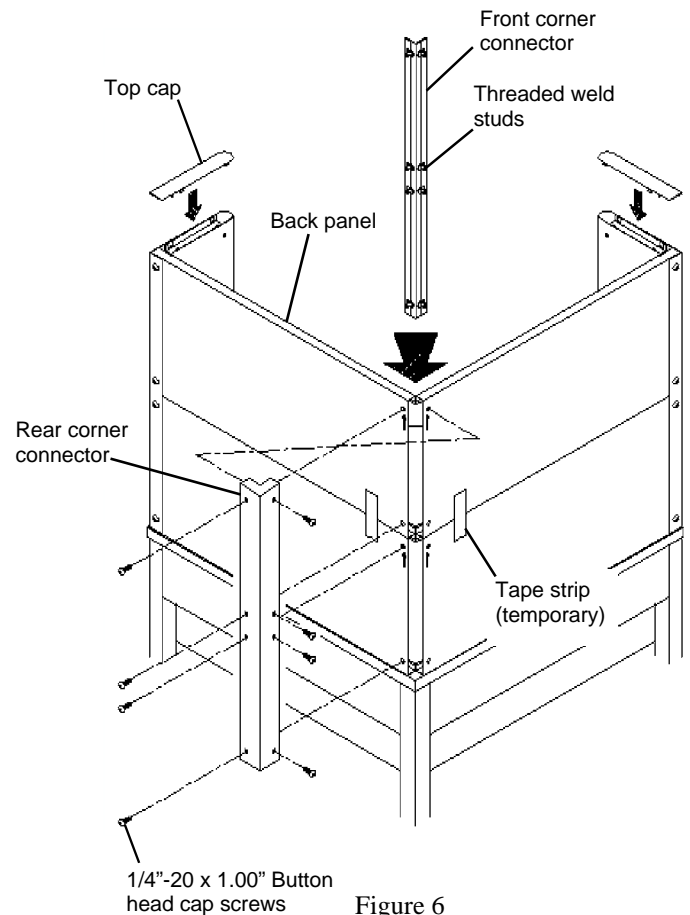

Figure 6
5. Install the remaining **Back panel(s)** as shown in **Figure 6**. If you are installing a 32" or 36" high unit, be careful to keep the unfastened ends of the **Back Panels** together. Apply a length of tape as shown if required.
6. Install the **Front and Rear Corner Connectors** sandwiching the **Back Panels** between them. See **Figure 6**.
Install the 1/4"-20 x 1.00" Button head cap screws through the **Rear Corner Connector** and the **Back Panel** and into the threaded weld stud on the **Front Connector**. Thread the screws in until their heads touch the **Connector** (snug fit). **DO NOT TIGHTEN**. Remove the previously applied tape. See **Figure 6**.
8. Install two **Top Caps**. See **Figure 6**.